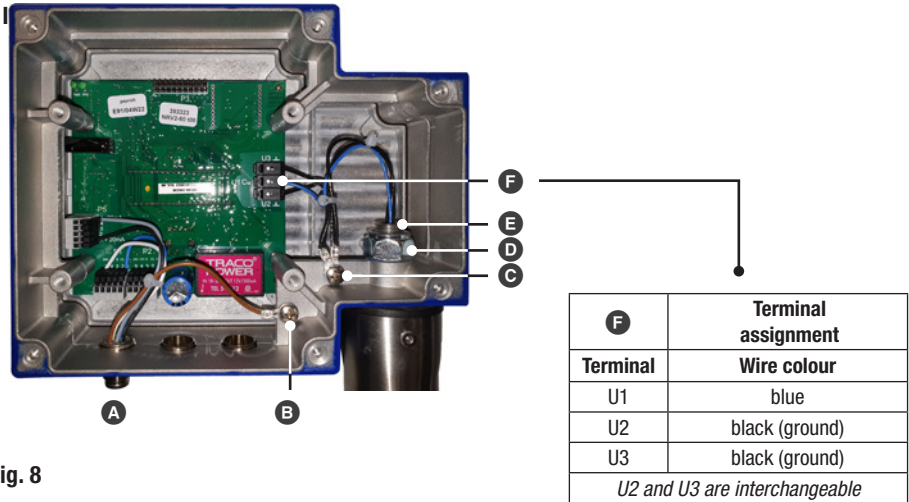

Fig. 8
10. Reconnect the electrode wiring to the PCB, see table in **Fig 8**.